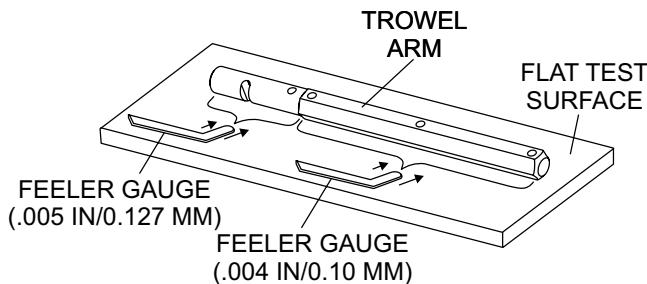

Figure 28. Trowel Arm Inspection
1. Place the trowel arm on a thick, steel plate, granite slab, or any other surface which is **true and flat** (Figure 28).
2. Check each of the six sides of the trowel arm hex section (Figure 28). A feeler gauge of .004 inch (0.10 mm) should not pass between the flat of the trowel arm and the test surface along its length on the test surface.
3. As the flat hex section rests on the test surface, use a feeler gauge of .005 inch (0.127 mm) to check the clearance between the round shaft section and the test surface. Rotate the arm to each of the flat hex sections and check the clearance between the round shaft and the test surface. The clearance between the round shaft and the test surface should be identical for each hex section. See Figure 28.